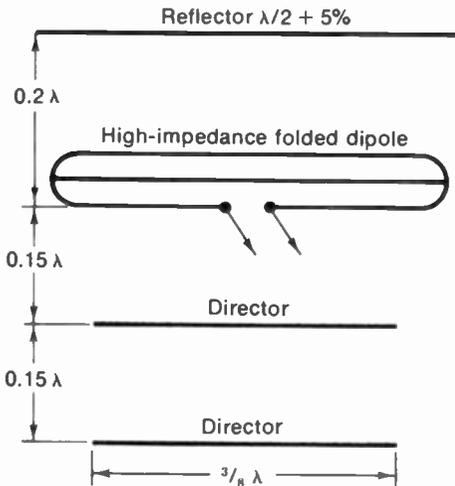

FIGURE 25-15 YAGI ANTENNA ARRAY, WITH DIPOLE, REFLECTOR, AND TWO DIRECTORS.
**Yagi antenna.** A dipole with one reflector and two or more directors, as illustrated in Fig. 25-15, is called a *Yagi antenna*. This is a compact high-gain array, with a sharp forward broadside lobe and narrow bandwidth, often used in low-signal areas to cover one television channel or several adjacent channels. The gain of the Yagi antenna with three parasitic elements is about 10 dB, with a front-to-back ratio of approximately 15 dB. A high-impedance folded dipole is generally used for the driven element so that the reduced value of antenna resistance with the parasitic elements can be about 150 to 300 Ω. More directors can be added but generally only one reflector is used because additional reflectors do not improve the response.